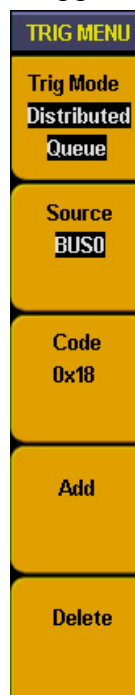

Fig 70: Distributed queue trigger menu
5. **Distributed queue trigger**: make BUS as trigger source and dis-continuous setting data in BUS as trigger condition to generate trigger and also can set 8 data at the same time. Distributed queue trigger menu refer as Fig.70